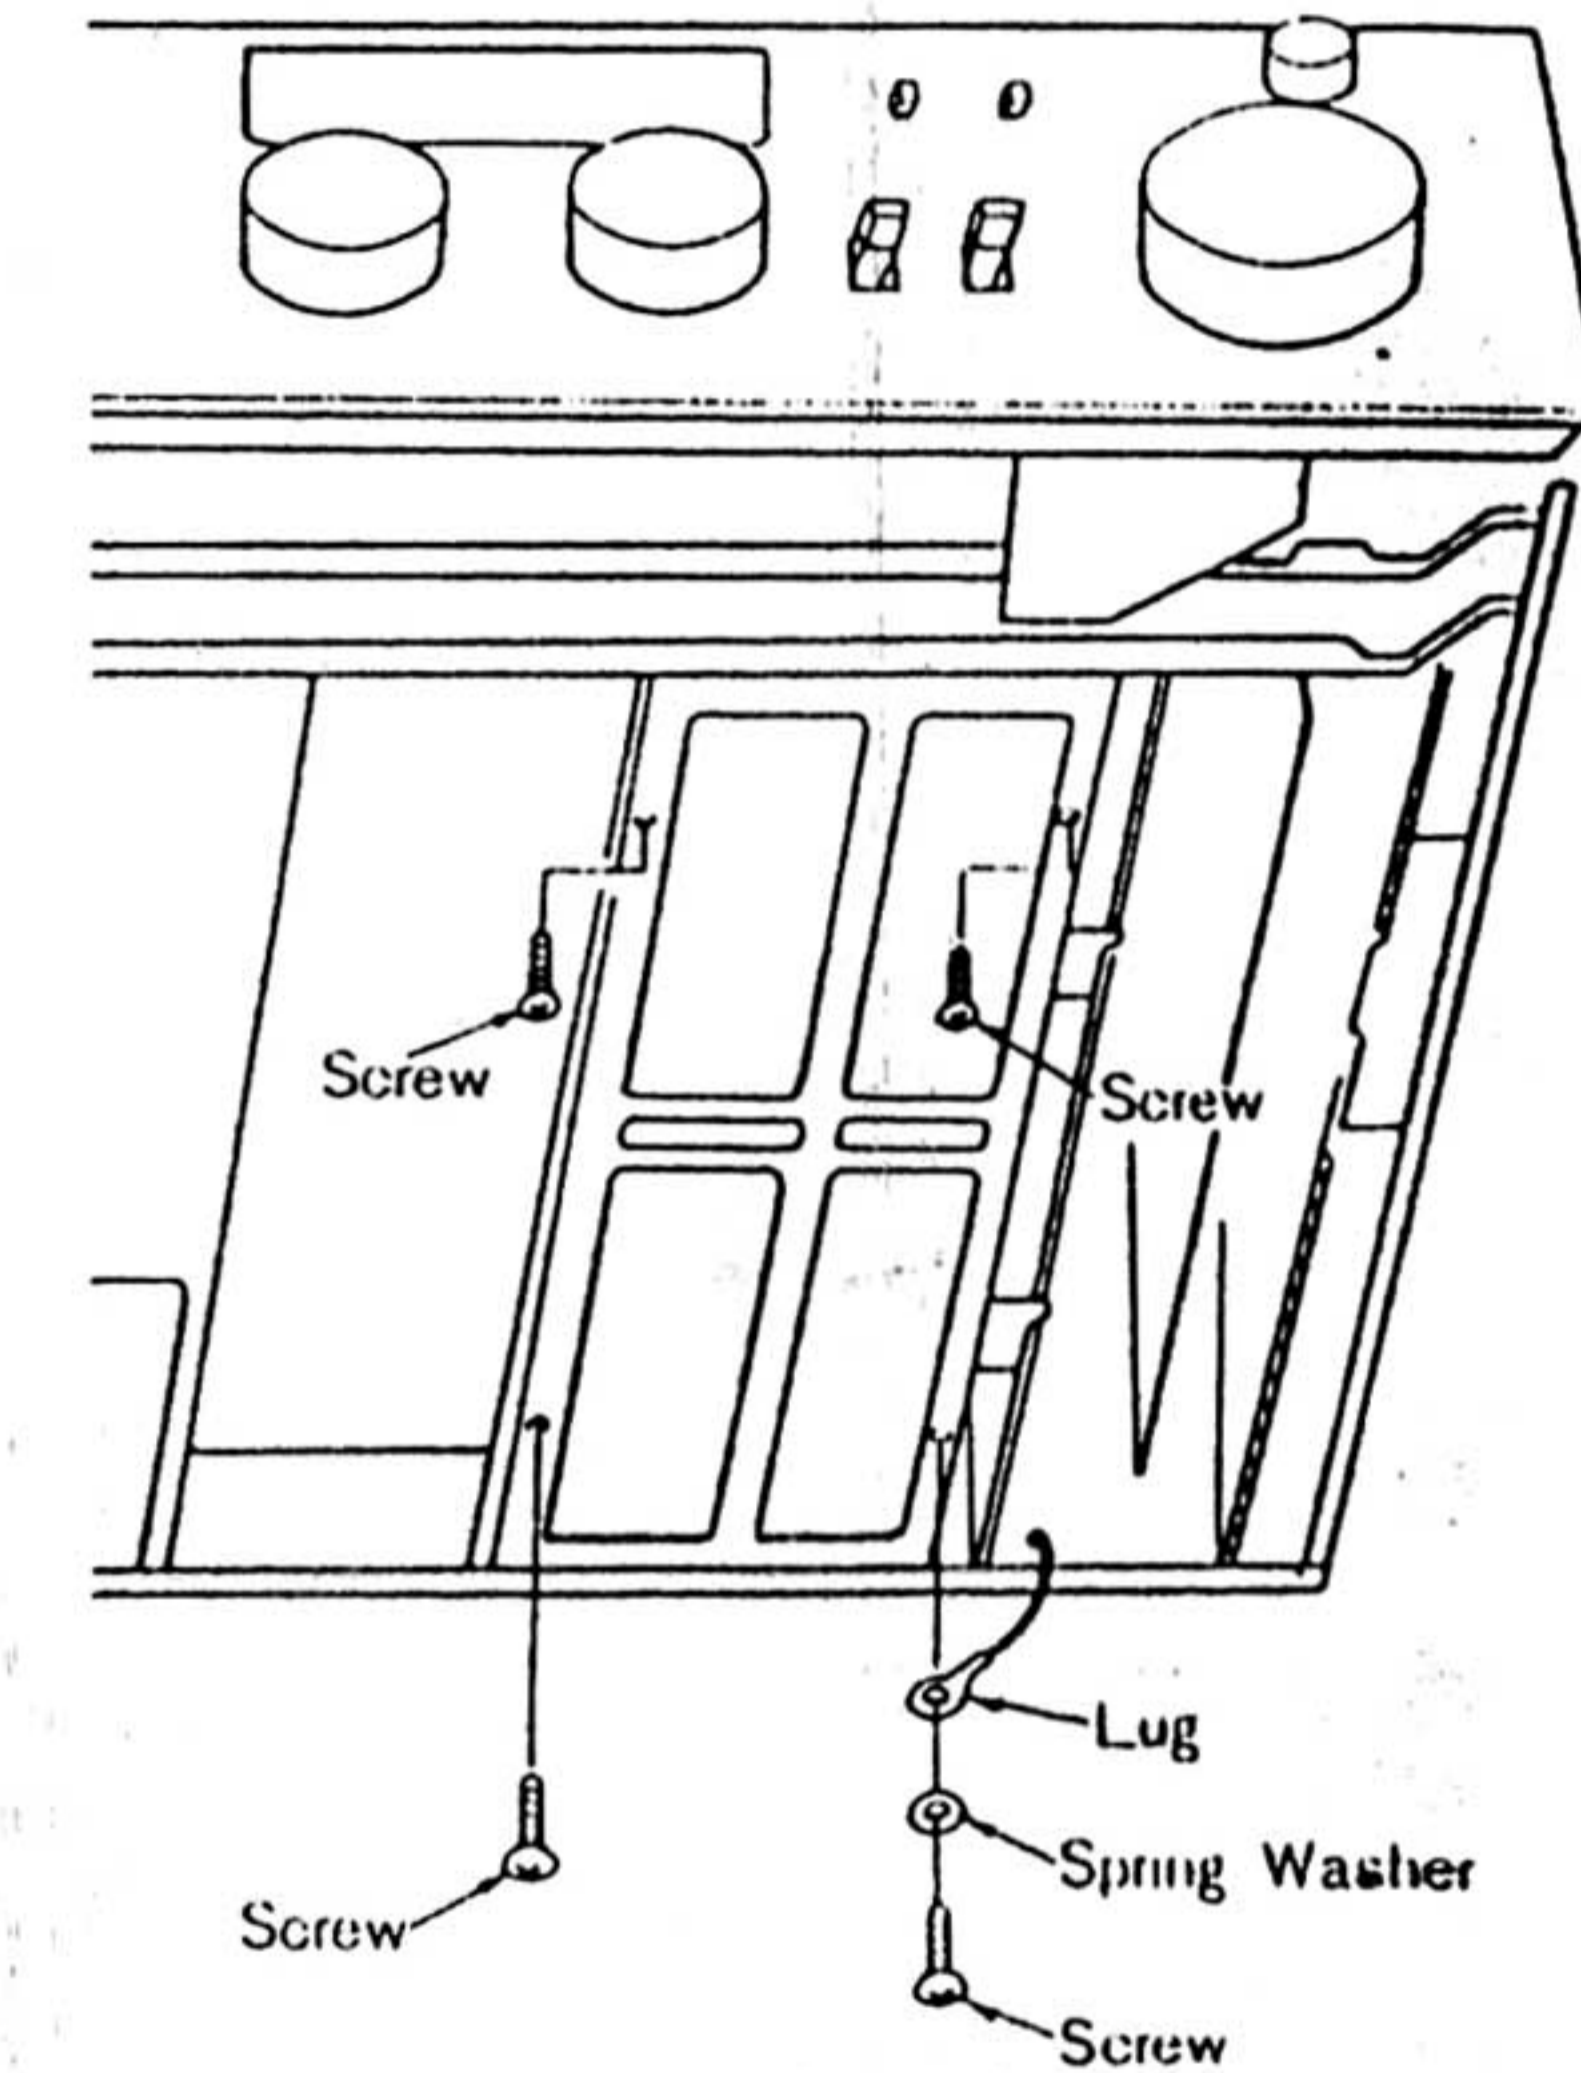

Fig. 6
2. Remove four heat sink setscrews from the back of the set. (Fig. 6)